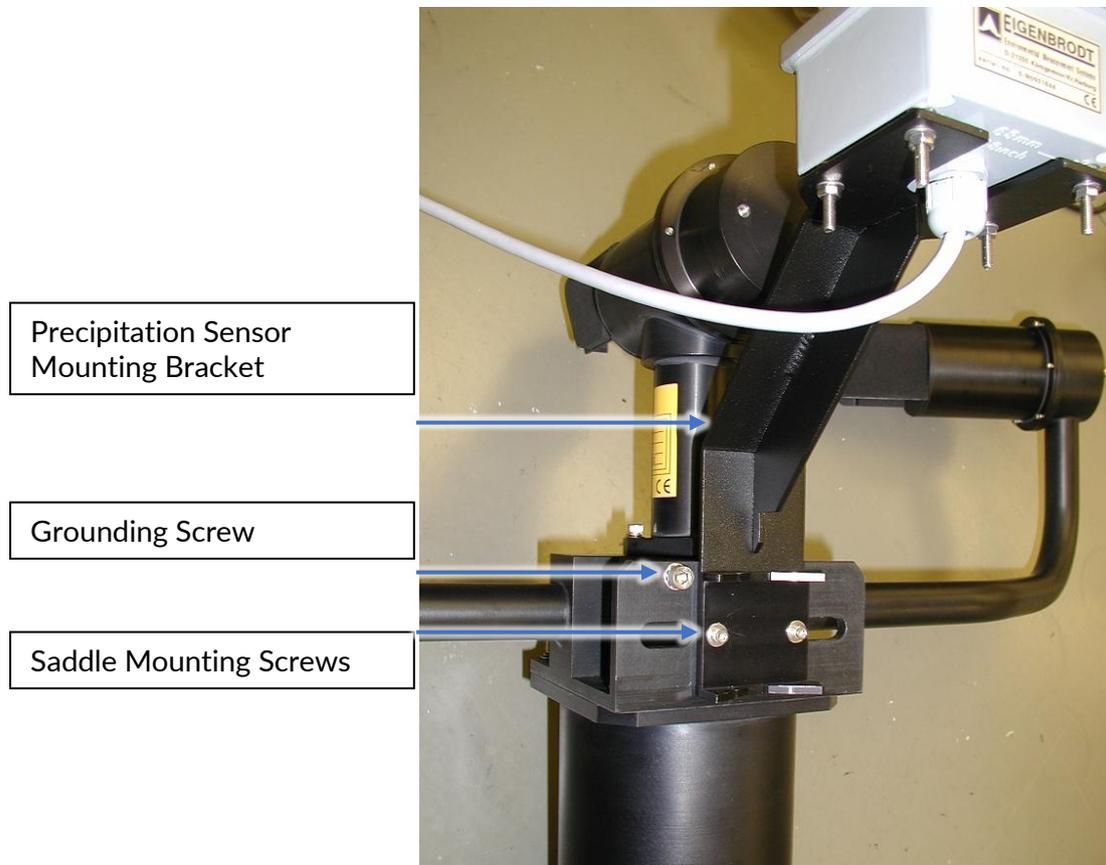

Figure 2-8 Precipitation Sensor Mounting Details
On the rear of the present weather sensor, unscrew the small saddle which locates the system onto the mounting pole. Place the appropriate end of the Precipitation Sensor mounting bracket under this saddle and replace. This will locate the Precipitation Sensor immediately behind the back-scatter head as shown in Figure 2-8 Precipitation Sensor Mounting Details.
(1) Ground Rod: A 2.5m ground rod should be used to make contact with moist soil during even the driest periods.
(2) Lead Lengths: No. 6 AWG solid copper wire should be used to connect the sensor and thus the transient voltage suppressers to the ground rod. Use the shortest and most direct paths to the ground. Simply connect the ground lead to the grounding screw provided on the front of the lower mounting flange of the sensor (Figure 2-8 Precipitation Sensor Mounting Details).
(3) System Interconnections: Eliminate all isolated ground loops. The shield of the signal output cable, for example, should be attached only at one end of the cable and left floating at the other end. Preferably, it should be attached to ground at the sensor end of the signal cable.
(4) Connections: Use tight, corrosion-proof bare metal connections throughout the grounding system.